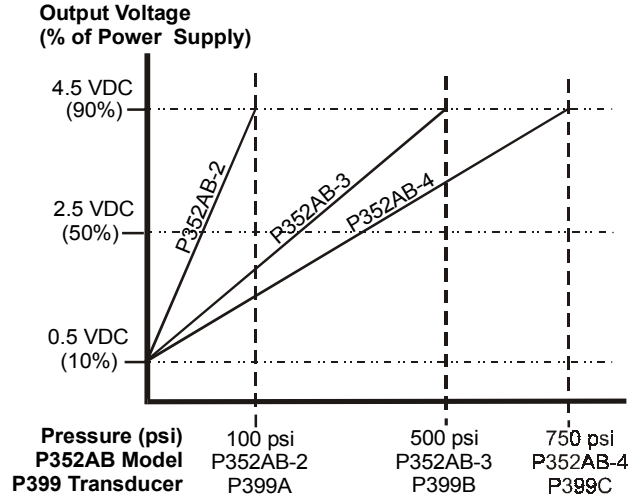

Figure 8: Pressure vs. Output Voltage
- c. The transducer output signal voltage (V_O) increases proportionally to an increase in the pressure at the transducer (psi_T). Use the graph in Figure 8 to compare the measured signal voltage to the measured pressure or use the formula below to compare the voltage and pressure values.